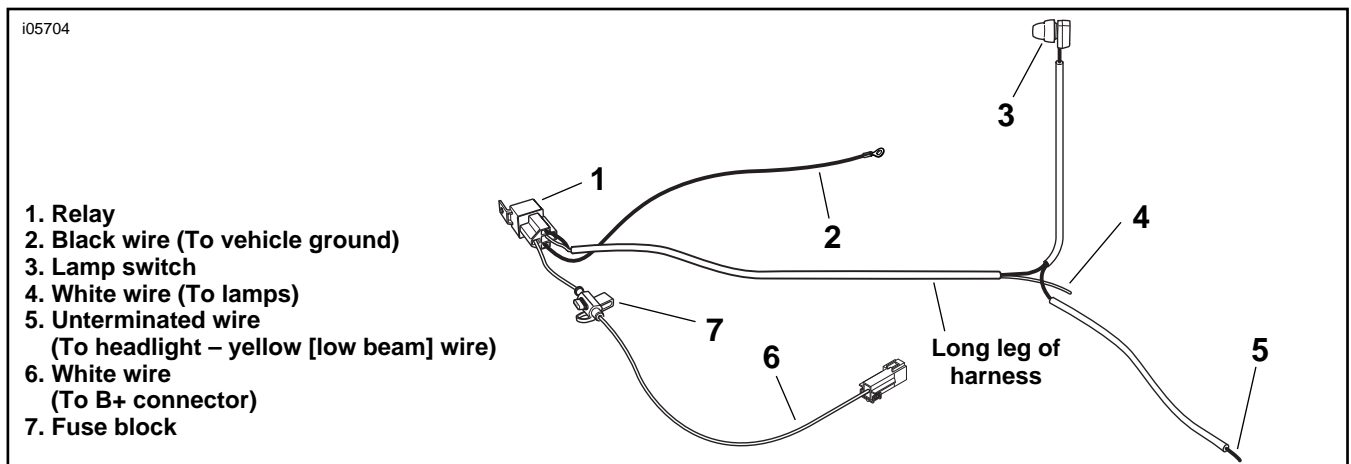

Figure 4. Wiring Harness Component Identification
See Figure 4 for wiring harness component identification.
All 2003 and earlier models: See Figure 4. Cut the connector from the white power lead, and replace it with the ring terminal supplied in the kit. Connect the white wire with the ring terminal to the copper stud (BAT) terminal of the main circuit breaker.
12. See Figure 4. Connect the black ground wire (2) with the ring terminal to the ground stud under the seat, or at any good electrical ground point. Secure the kit harness to the adjacent harnesses with cable straps (Item 16) from the kit.
13. See Figure 4. Route the harness past the steering head, and route the lamp switch (3) leg of the harness along the left side of the handlebar to the clutch control.